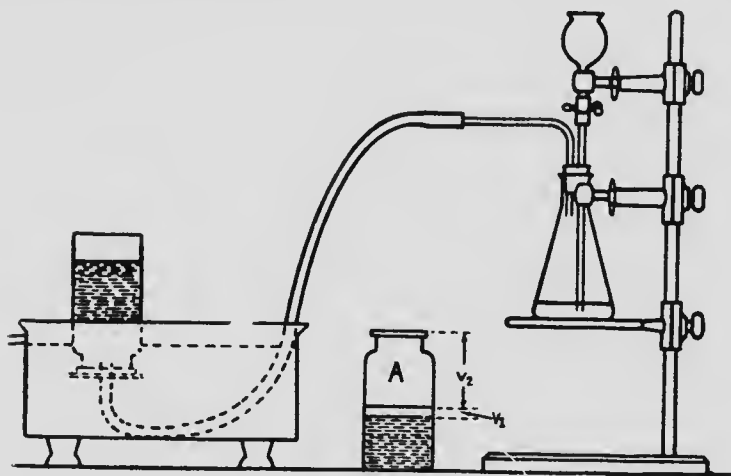

FIG. 50.
**Sketch.** -Fig. 50.
**Experiments.** 1. Place exactly 3 grms. of the sample of baking powder in a **dry flask**, arranged as indicated in Fig. 50. Boil 100 cc. of water in a beaker, and pour a test tube full of boiling water down the thistle tube, **quickly** closing the pinch cock as soon as all the water runs out of the bottom of the thistle tube. Shake the flask occasionally. When all the gas is collected in the bottle, remove the rubber delivery tube from the trough, place the bottle in the trough so that the surfaces of the water in the bottle and in the trough are at the same level, then put a cover glass over the mouth of the bottle. Remove the bottle quickly from the trough and place it mouth up on the bench (Fig. 50, A). (**Care must be taken that no**
water runs out of the bottle while it is being removed from the trough.) The volume of gas in the bottle is too great by the volume of water added by means of the test tube ( $V_2$  in Fig. 50, A); so to the gas bottle add a test tube full of water—using the same test tube that the hot water was measured in.
**Sketch.** Fig. 50 -omitting bottle on table.
**Experiment.**—Place in the dry flask (Fig. 50) 10 grms. of calcium carbide; fill the thistle tube with water, and allow a few drops at a time to act on the carbide, keeping up a gentle evolution of the gas. The surface of the water in the funnel should never be allowed to get below the pinch cock. Reject the first three bottles of gas collected. Collect a bottle of the gas; one test tube full; and one test tube quarter full. Keep the collected gas in the pneumatic trough till required.